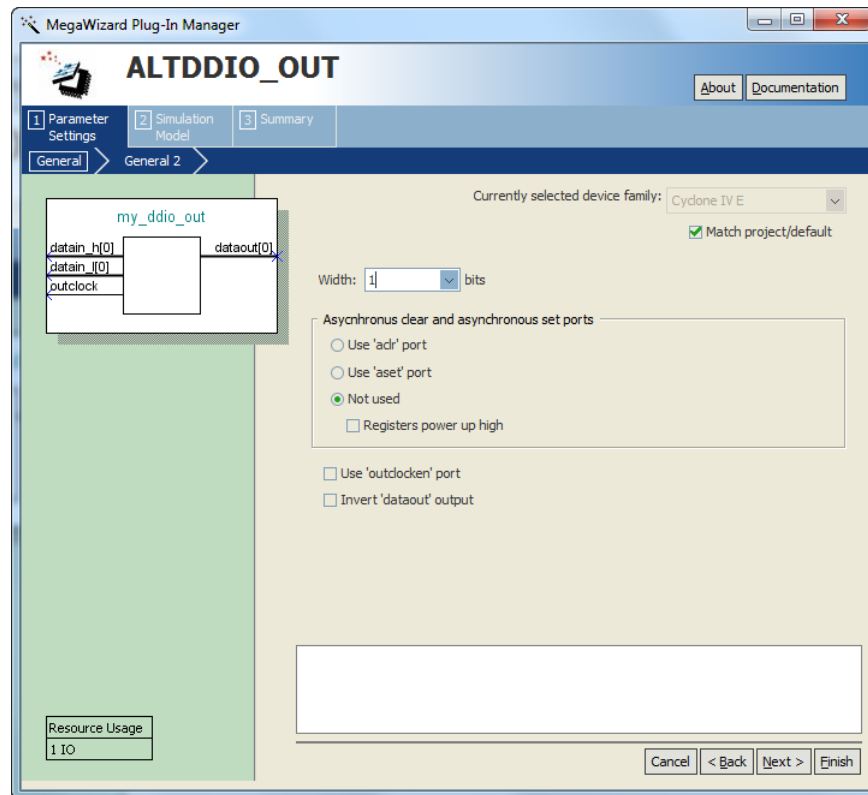

Figure 17. Settings for the DDIO\_OUT register.
3. In the window in Figure 17, set the **width** to **1** bit. Also select **Not used** for the **asynchronous clear and asynchronous set ports** options.